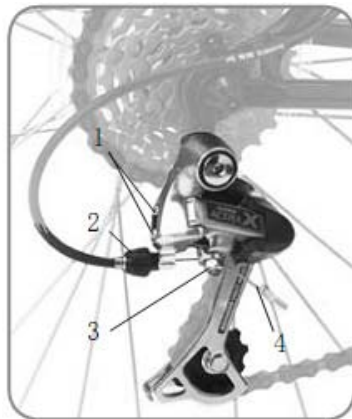

Figure 11- Rear derailleur
2. Loosen the cable clamp bolt (Figure 11) until the cable is free.